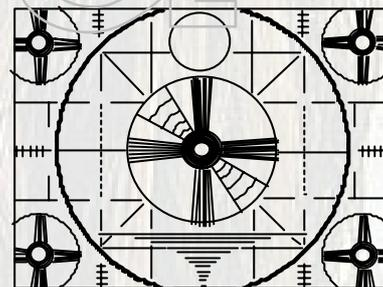

Fig.2-7 NTSC monoscope
2. Use the [REMOTE +/-] key of the jig remote control and set the value to either 1E, 1F or 20, and confirm that six circles are true circles. (Fig. 2-7)